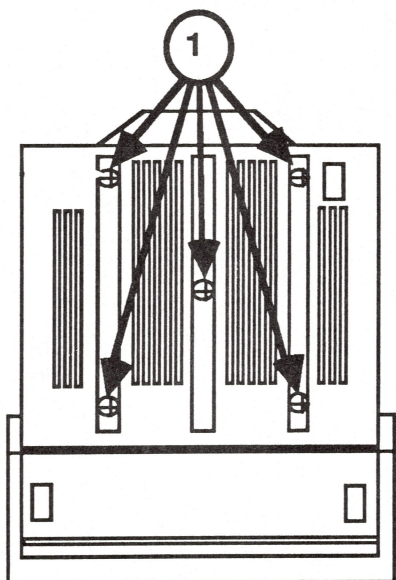

FIGURE 1
4. Remove the five screws (Figure 1, #1) from the bottom of the monitor.